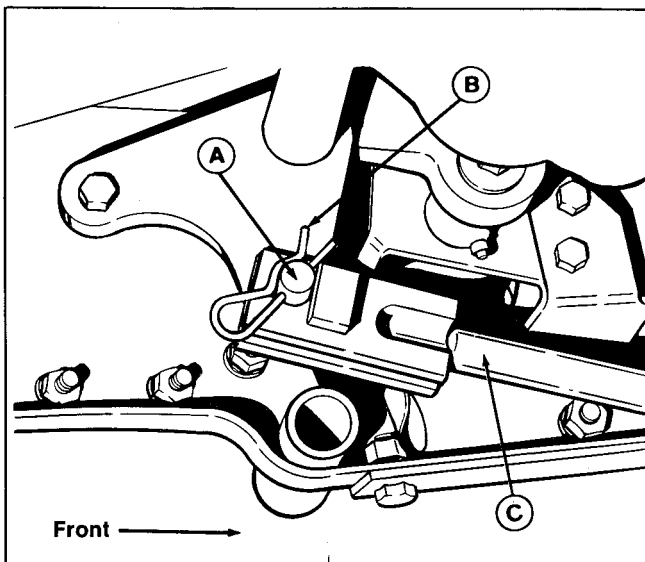
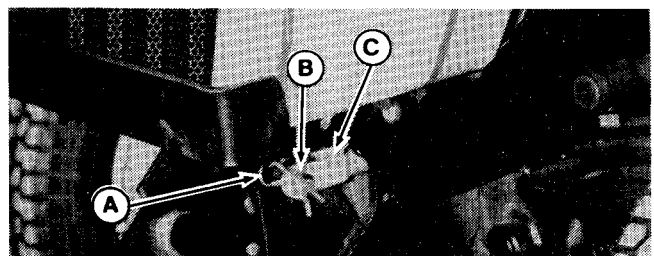

Figure 5
Figure 8
4. Connect rear of lift rod (C, figure 5) to lift lever under tractor with pin (A) and clip (B). Route the lift rod under engine mount and above axle. Front of lift rod is shown in figure 8 extending under front bumper.
6. Connect the lift rod (C, figure 8) to the hitch with pin (B) and clip (A). Install pin so clip is to outside as shown.